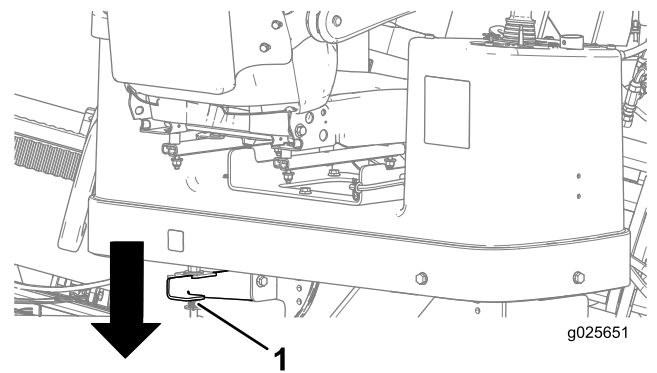

Figure 42
5. Push down on the rear platform latch securing the operator platform, and swing it out to the desired position, ensuring that it locks in place (Figure 42).